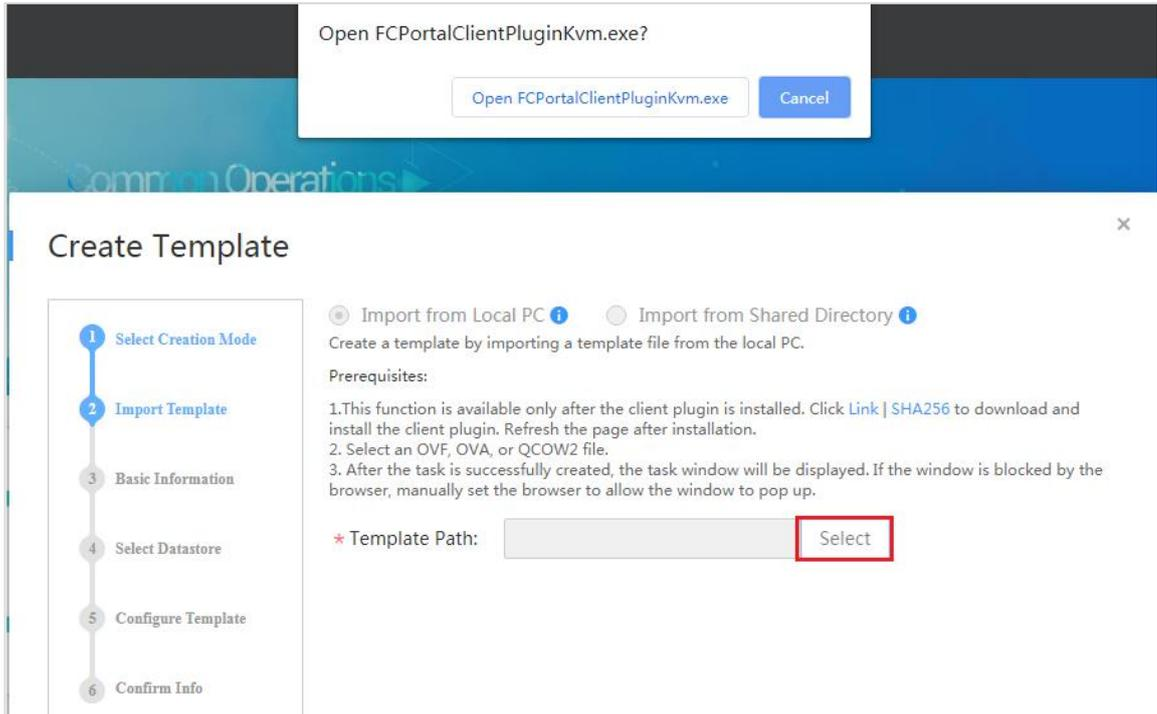

Figure 5-8 Running the plug-in
- In the dialog box for creating a template, click **Select**. If the dialog box shown in Figure 5-8 is displayed, click **Open FCPortalClientPluginKvm.exe**. If no dialog box is displayed, go to the next step.